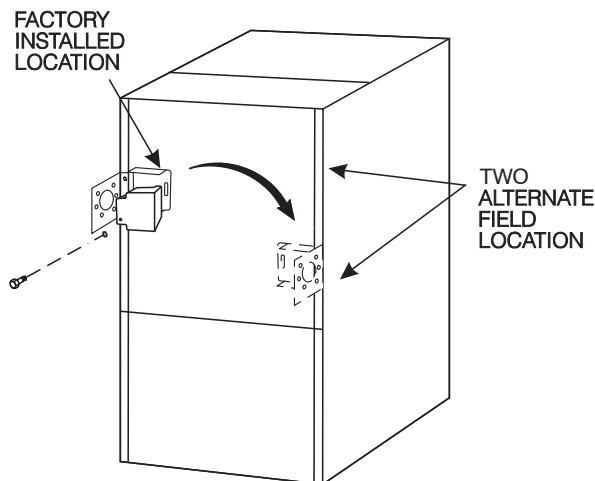

Fig. 24 - Relocating J-Box
1. Remove and save two screws holding J-Box. (See Fig. 24.)
- Remove and save two screws holding J-Box. (See Fig. 24.)